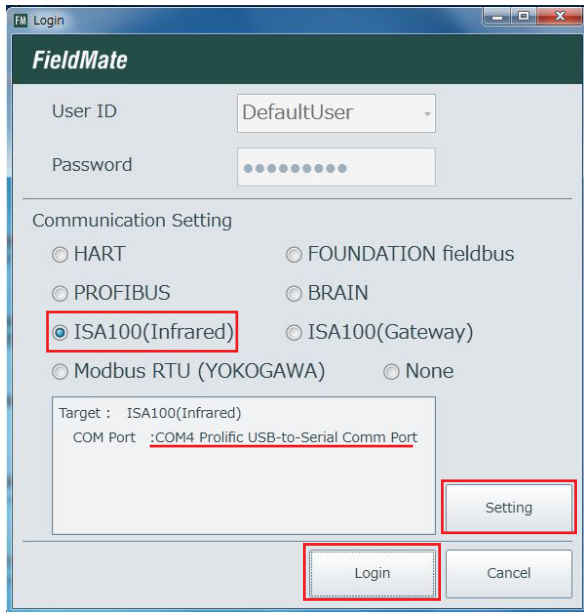

Figure 9
- ① Start FieldMate according to step ① in (2) Provisioning (figure 9).